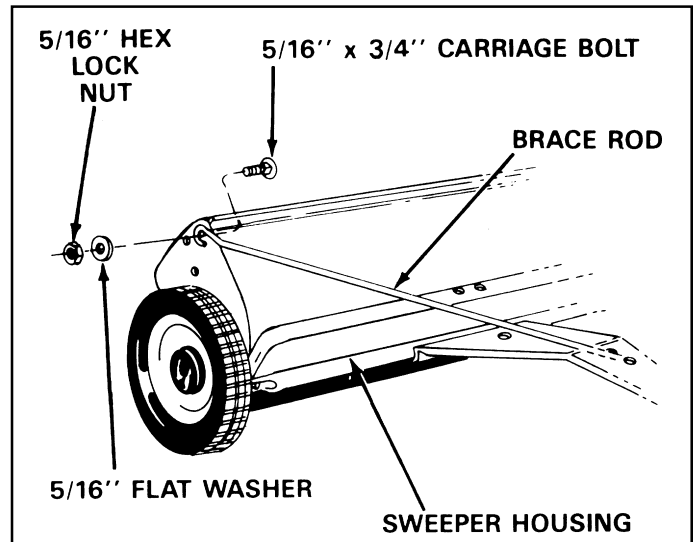

FIGURE 2
3. Attach the brace rod to the square holes in the sweeper housing using two 5/16" x 3/4" carriage bolts, 5/16" flat washer and 5/16" hex lock nuts. Place bolts heads on inside of sweeper housing. **Do not tighten at this time.** See figure 2.